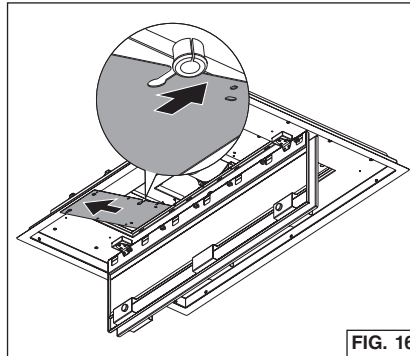
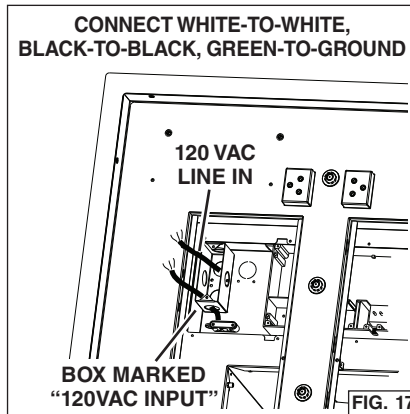

FIG. 16
FIG. 17
3. From the room interior, pull down both closure panels. Fig. 16.
4. Remove (4) screws from the electrical compartment access panel. Slide the panel sideways to expose the electrical wiring box.
5. From the electrical box marked "120 VAC Inlet", remove (2) screws that secure the cover to the metal wiring box. Fig. 17.
9. Replace the electrical compartments access panel and (4) screws.